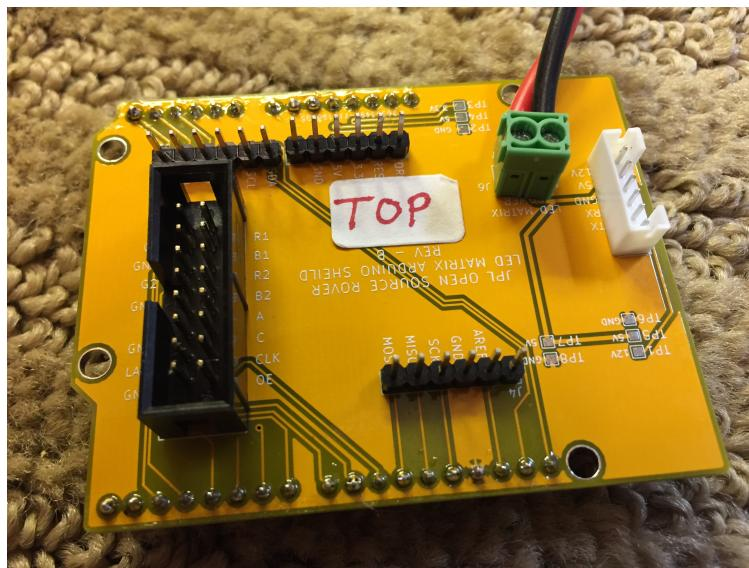

Figure 17: Assembled Arduino Sheild
Now, we will assemble the Arduino shield that will sit in the rover's head and control the face. We will start with the **TOP** side of the Arduino board. The final product is shown in Figure 17.
1. Begin by taking the 2-position terminal block **E18** and soldering it to top of the board at the J6 connector, such that the screw terminals face outwards as shown in Figure 17:
2. Solder the 1x6 JST connector **E14** onto the top of the board at the J5 connector such that the notch in the connector faces **OUTWARDS** as shown in Figure 17:
3. Solder the 2x8 shrouded header pin connector **E19** to the top of the board at connector J1 such that the notch faces **OUTWARDS** as shown in Figure 17.